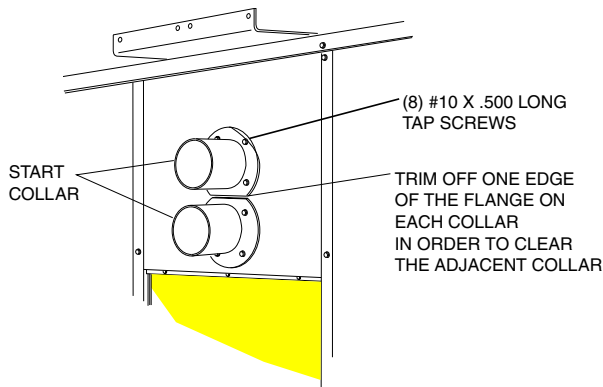

FIGURE 9 : START COLLARS INSTALLED
6. Remove the paper backing from the flanges of two (2) start collar, (Item 4), and place the start collar over the exhaust openings on the top gas heat panel as shown in Figure 9. Make sure the holes provided around the flue opening correspond to the hole pattern in the start collars. Trim off one edge of the flange on each collar in order to clear the adjacent collar, see Figure 9. Use four (4) #10 x.500 long tap screws, (Item 10), to secure each start collar to the top gas heat panel.